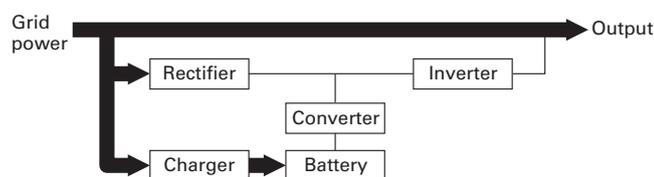

Fig. 3 The power supply path for the Economy mode
Figure 3 shows the power supply path for the Economy mode. When the grid power is stable, the inverter stops, allowing the grid power to be output as is. This eliminates the loss through the inverter and increases efficiency. The batteries are constantly float-charged by the charger so that they stay charged and ready for a power grid failure such as a power outage or voltage dip. When the grid power becomes unstable, the UPS automatically transfers to the Double Conversion mode described in the (1) above. This is done without interruption if the input frequency is within the synchronization range, or there will be an interruption within 8 ms if it is outside the range.